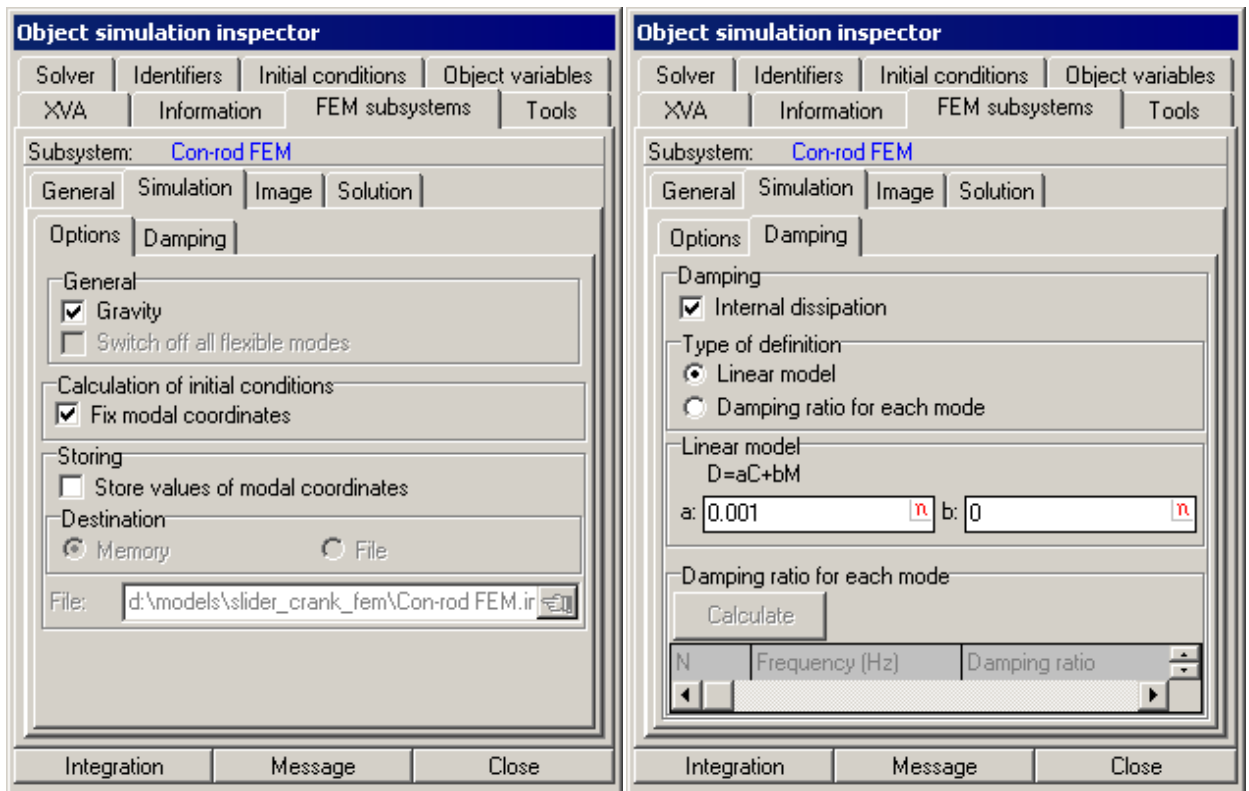

Figure 1.27.
9. Select the **FEM Subsystems | Simulation** tab and set up all options according to Figure 1.27.